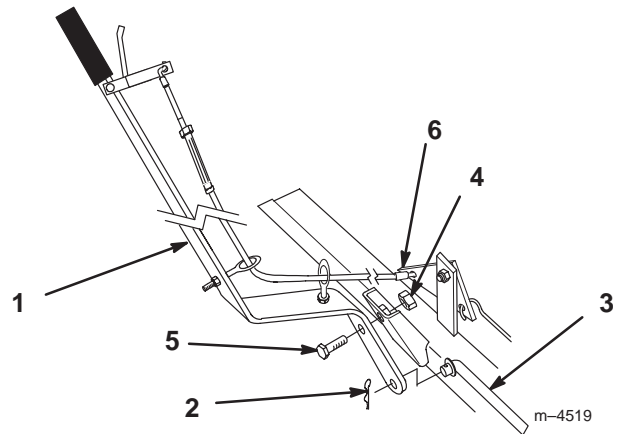

Figure 10
1. Hold the index handle near the pivot support and install the cable "Z" end to the back hole of the triangular index plate (Fig. 10).
2. With the "Z" end of the cable installed, attach the index handle to the pivot support using the 1/2-13 x 1" (25 mm) pivot bolt. Screw the bolt into the pivot support until the handle is snug and then back it off slightly to let the handle pivot freely (Fig. 10).
3. Install the 1/2" jam nut on the pivot bolt to lock it in place (Fig. 10).
4. Rotate the index handle to align the hole at the bottom of the handle with the control rod. Insert the control rod and secure with a large hairpin cotter (Fig. 10).